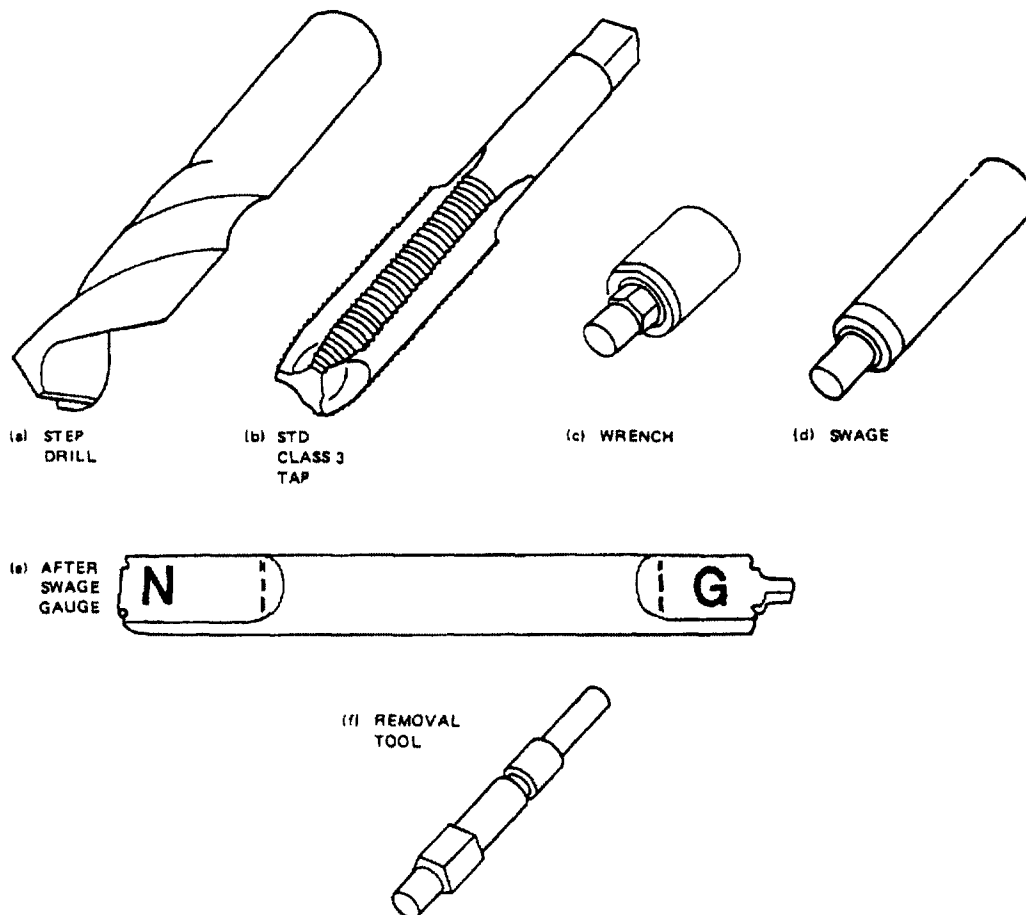

Figure 075-2-7. Typical Thin Wall Insert Repair Kit Tools
**075-2.8.9 THIN WALL LOCKED-IN INSERTS.** Thin wall locked-in inserts are designed and manufactured in accordance with MIL-I-45932/1 and DOD-I-63274/2 (Metric). The top external threads are serrated for external locking against rotation with an internal counterbore in the same region. These serrated threads are swaged into the counterbore for maximum retention. The provision of an internal threads wrenching recess is created by passing a broach directly through the internal threads. Two types of wrenching recesses are used (Figure 075-2-2). A six-point recess serves to identify those parts with an internal thread lock. The four-point recess identifies parts that do not have the internal lock feature. The thin wall of these inserts is made possible by the hi-root form external thread. External thread strength is not diminished by this form change, and it affects installation only to the extent that a slightly oversize tap drill must be provided. The internal thread lock is created by a slight thread deformation at the approximate center of the insert. Thread sizes range from No. 2 to 3/4-inch, unified national coarse and fine, as well as metric 3 to 14 mm. Thin wall inserts are for original design or repair of damaged internal threads. See Figure 075-2-7 for a typical thin wall insert repair kit. In the event the internal thread of the insert is inadvertently cross-threaded or mutilated, the insert may be removed and replaced with the same size part. If the external thread of the insert or the tapped thread in the parent material is damaged, replacement with oversize thin wall swage type inserts is recommended. Engineering data on the inserts is included in the basic specifications, MIL-I-45932 and DOD-I-63274.